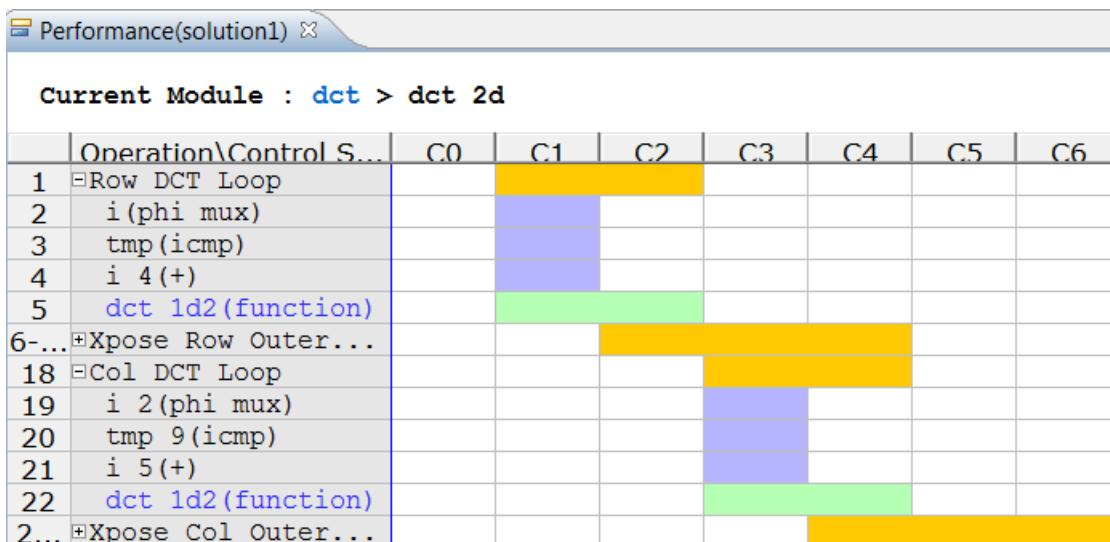

Figure 6-11: DCT_2D Performance View
- In the Module Hierarchy pane, click the function **dct_2d** to navigate into the view for this function (Figure 6-11).
In the Performance Profile you can see that the latency of all the loops has been substantially reduced (Row_DCT_Loop and Col_DCT_Loop have been approximately halved from the earlier report in Figure 6-11). However, the majority of the latency is still due to these two loops, each of which calls the `dct_1d` block.